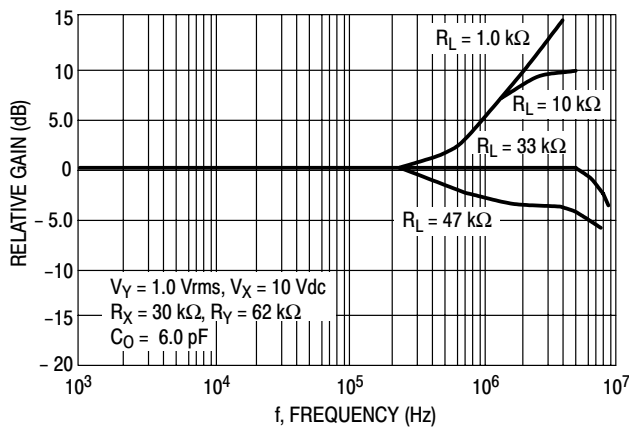
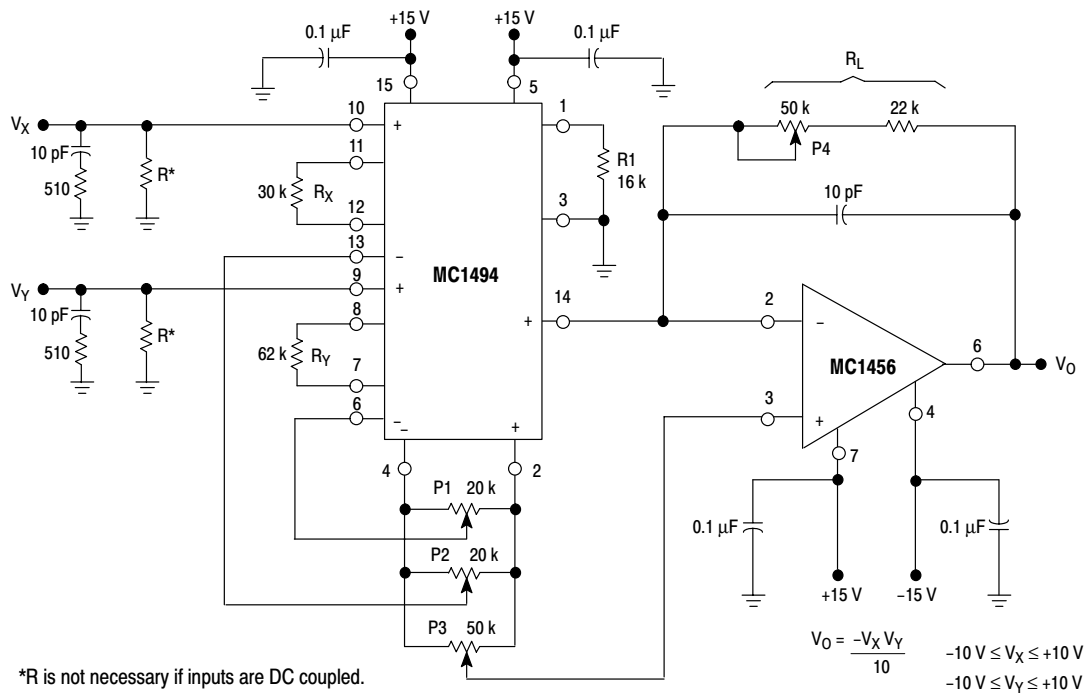
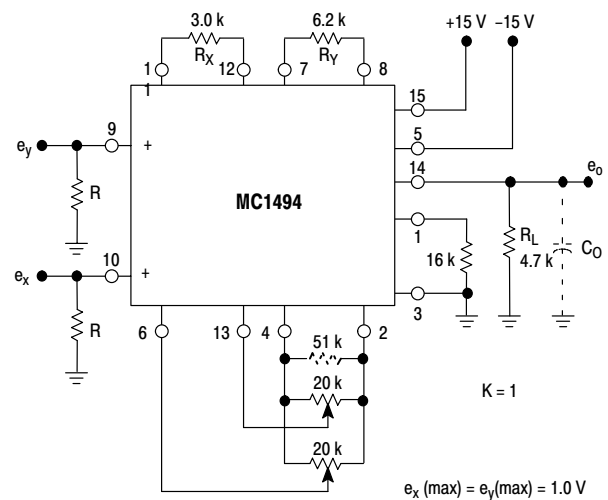

Figure 11. Frequency Response of Y Input versus Load Resistance
Figure 18. Typical Multiplier Connection
Figure 19. Wideband Multiplier
The output current can be easily converted to an output voltage by placing a load resistor R_L from the output (Pin 14) to ground (Figure 19) or by using an op amp as a current-to-voltage converter (Figure 18). The result in both circuits is that the output voltage is given by:
For low frequency operation the circuit of Figure 18 is recommended. For this circuit, $R_X = 30$ kΩ, $R_Y = 62$ kΩ, $R_1 = 16$ kΩ and, hence, $I_1 \approx 0.5$ mA. Therefore, to set the scale factor (K) equal to 1/10, the value of R_L can be calculated to be:
Thus, a reasonable accuracy in scale factor can be achieved by making R_L a fixed 47 kΩ resistor. However, if it is desired that the scale factor be exact, R_L can be comprised of a fixed resistor and a potentiometer as shown in Figure 18.
The selection of R_L is arbitrary and can be chosen after resistors R_X and R_Y are found. Note in Figure 18 that R_Y is 62 k Ω while R_X is 30 k Ω . The reason for this is that the "Y" side of the multiplier exhibits a second order nonlinearity whereas the "X" side exhibits a simple nonlinearity. By making the R_Y resistor approximately twice the value of the R_X resistor, the linearity on both the "X" and "Y" sides are made equal. The selection of the R_X and R_Y resistor values is dependent upon the expected amplitude of V_X and V_Y inputs. To maintain a specified linearity, resistors R_X and R_Y should be selected according to the following equations:
The operational amplifier connection in Figure 18 is a simple but extremely accurate current-to-voltage
Since the MC1494 is capable of operation at much higher frequencies than the op amp, the frequency characteristics of the circuit in Figure 18 will be primarily dependent upon the operational amplifier.
The input offset adjustment potentiometers, P1 and P2 will be necessary for most applications where it is desirable to take advantage of the multiplier's excellent linearity characteristics. Depending upon the particular application, some of the potentiometers can be omitted (see Figures 19, 21, 24, 26 and 27).
The adjustment procedure for the circuit of Figure 18 is:
The MC1494 multiplier, like most linear ICs, requires a DC bias current into its input terminals. The device cannot be capacitively coupled at the input without regard for this bias current. If inputs V_X and V_Y are able to supply the small bias current ($\approx 0.5 \mu\text{A}$) resistors R can be omitted (see Figure 18). If the MC1494 is used in an AC mode of operation and capacitive coupling is used the value of resistor R can be any reasonable value up to 100 k Ω . For minimum noise and optimum temperature performance, the value of resistor R should be as low as practical.
When long leads are used on the inputs, oscillation may occur. In this event, an RC parasitic suppression network similar to the ones shown in Figure 18 should be connected directly to each input using short leads. The purpose of the network is to reduce the "Q" of the source-tuned circuits which cause the oscillation.
For AC operation, such as balanced modulation, frequency doubler, AGC, etc., the op amp will usually be omitted as well as the output offset adjust potentiometer. The output offset adjust potentiometer is omitted since the output will normally be AC coupled and the DC voltage at the output is of no concern providing it is close enough to zero volts that it will not cause clipping in the output waveform. Figure 19 shows a typical AC multiplier circuit with a scale factor $K \approx 1$. Again, resistor R_X and R_Y are chosen as outlined in the previous section, with R_L chosen to provide the required scale factor.
The bandwidth of the MC1494 is primarily determined by two factors. First, the dominant pole will be determined by the load resistor and the stray capacitance at the output terminal. For the circuit shown in Figure 19, assuming a total output capacitance (C_O) of 10 pF, the 3.0 dB bandwidth would be approximately 3.4 MHz. If the load resistor were 47 k Ω , the bandwidth would be approximately 340 kHz.
Secondly, a “zero” is present in the frequency response characteristic for both the “X” and “Y” inputs which causes the output signal to rise in amplitude at a 6.0 dB/octave slope at frequencies beyond the breakpoint of the “zero”. The “zero” is caused by the parasitic and substrate capacitance which is related to resistors R_X and R_Y and the transistors associated with them. The effect of these transmission “zeros” is seen in Figures 11 and 12. The reason for this increase in gain is due to the bypassing of R_X and R_Y at high frequencies. Since the R_Y resistor is approximately twice the value of the R_X resistor, the zero associated with the “Y” input will occur at approximately one octave below the zero associated with “X” input. For $R_X = 30 \text{ k}\Omega$ and $R_Y = 62 \text{ k}\Omega$, the zeros occur at 1.5 MHz for the “X” input and 700 kHz for the “Y” input. These two measured breakpoints correspond to a shunt capacitance of about 3.5 pF. Thus, for the circuit of Figure 19, the “X” input zero and “Y” input zero will be at approximately 15 MHz and 7.0 MHz respectively.
From this brief discussion, it is evident that for AC applications; (1) the value of resistors R_X , R_Y and R_L should be kept as small as possible to achieve maximum frequency response, and (2) it is possible to select a load resistor R_L such that the dominant pole (R_L , C_O) cancels the input zero (R_X , 3.5 pF or R_Y , 3.5 pF) to give a flat amplitude characteristic with frequency. This is shown in Figures 11 and 12. Examination of the frequency characteristics of the “X” and “Y” inputs will demonstrate that for wideband